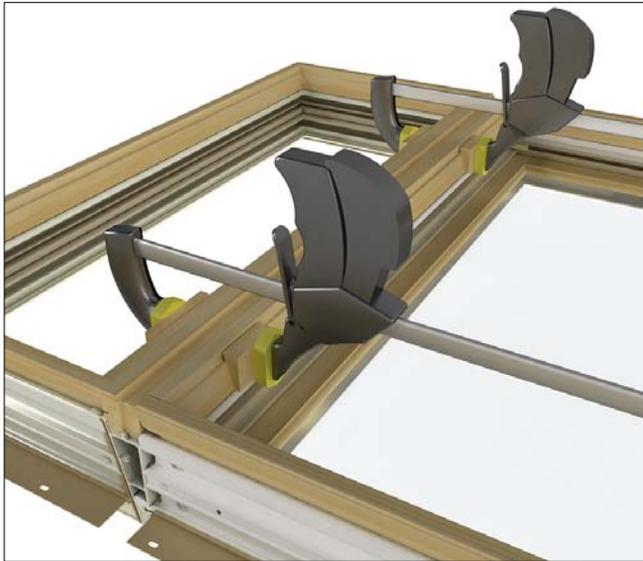

Figure 11
3. Position the units together in the desired configuration. Check to be sure that the frames at both ends of the mullion are flush and the nailing fin kerfs are aligned. Lightly clamp units together on interior (use wood blocks to protect interior) near each end to hold the 2 sided mullied units in place. See figure 11.